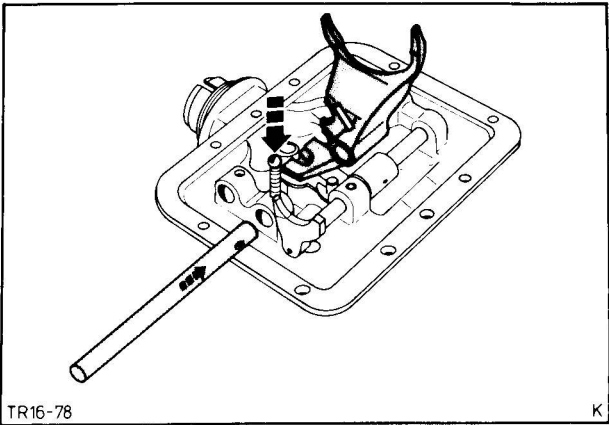

Fig. 129. Fit 3rd/4th gear selector fork and rail
7. Fit 3rd/4th gear selector fork and rail, Fig. 129.